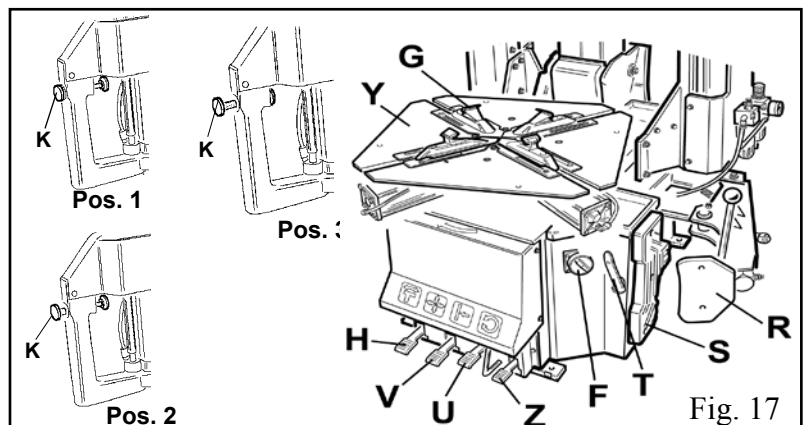

Fig. 17
• With the lever held in this position, let the turntable (Y) rotate in a clockwise direction by pressing pedal (Z) down until the tyre is completely separated from the wheel rim (Fig. 17).
• In order to remove the inner tube, if there is one, without unlocking the mounting bar, tilt the arm (P) by pushing pedal (H) down.